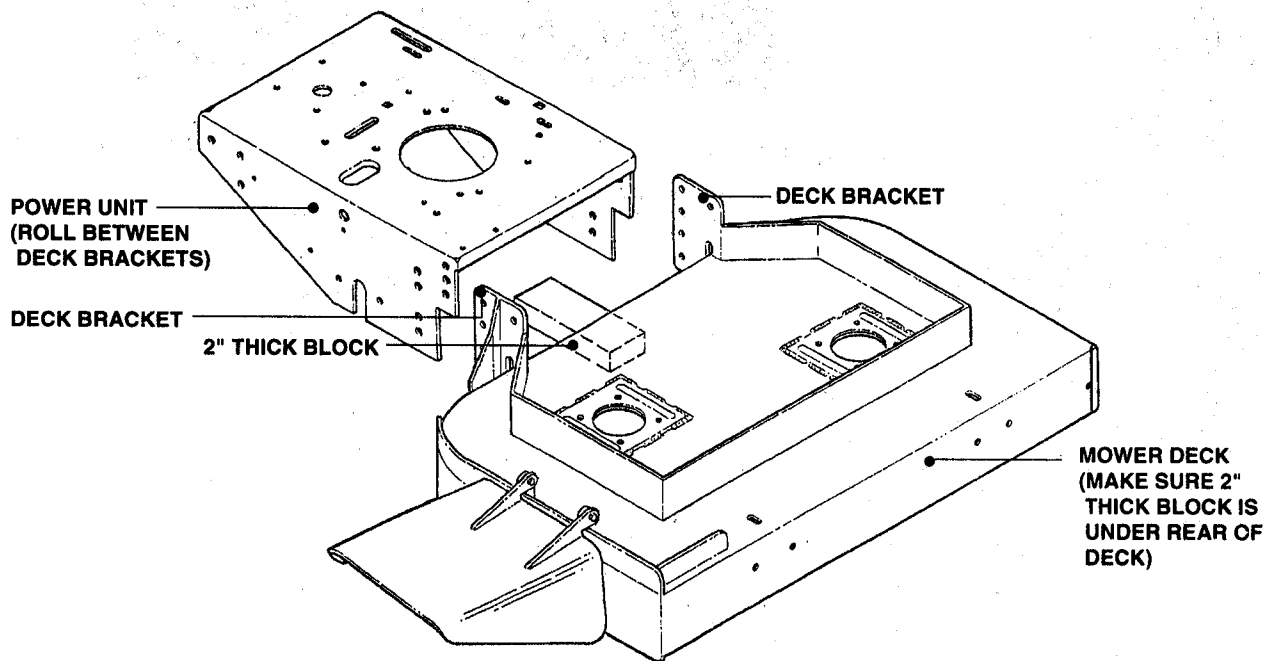

FIGURE 3
D. Roll Power Unit between brackets located on rear of mower deck. See Figure 3.